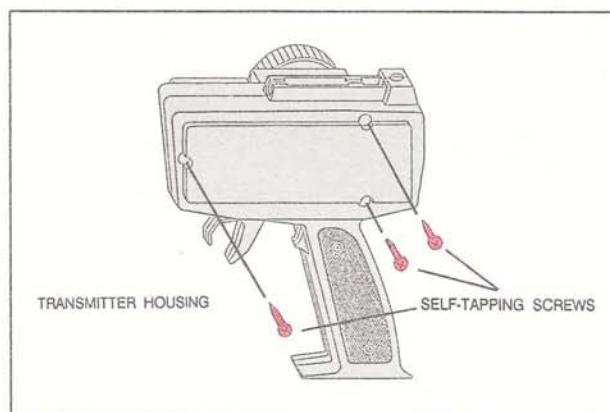
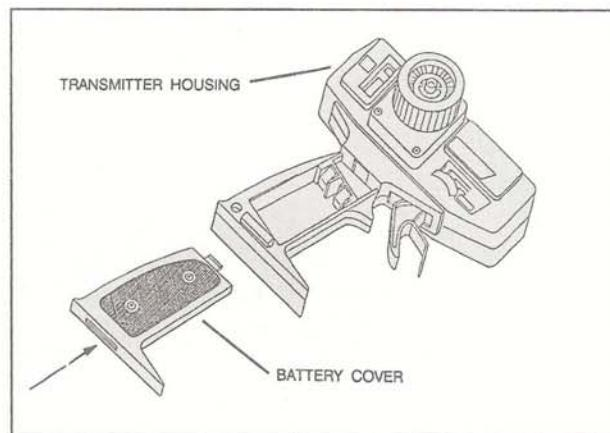

FIG. 69
FIG. 70
- 5. Join the left half of the transmitter's body to the right half, using three (3) H1 self-tapping screws ($3.0\varnothing \times 8\text{mm}$), as depicted in Fig. 69.
- 6. Finish securing the two halves of the body together by installing two (2) H1 self-tapping screws under the battery compartment cover.
- 8. Slide the battery compartment cover into place as described in Fig. 70.